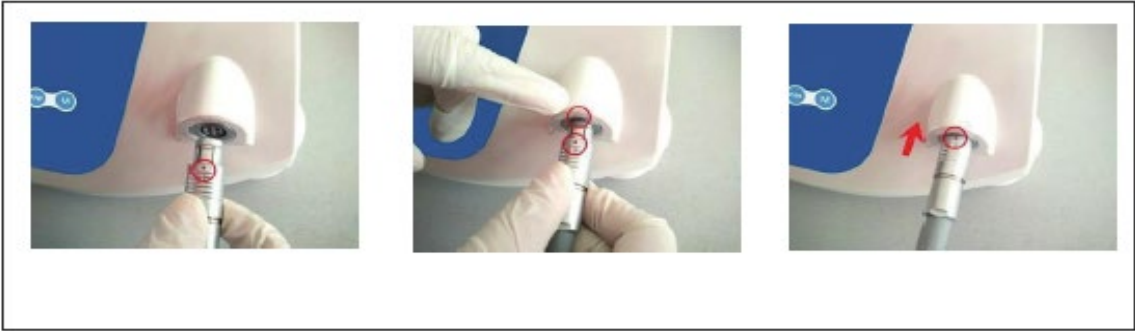

Fig.7
- 6.3.5.** Insert the connector of the HBPS-1 LED handpiece cord to the cord connector on the main unit front connector (Fig. 7). Note the alignment of the two red dots and the detent-enabled sleeve.
- 7.5.8**  **WARNING: DO NOT GRIP THE DISTAL END PART OF THE HANDPIECE OR THE CORD. ONLY GRIP THE PLASTIC HANDPIECE PLASTIC AND METAL CASTINGS, AND DO NOT TURN IT WHILE FASTENING THE TIP TO THE SHAFT, OR THE SHAFT TO THE HANDPIECE OR THE GOLD INSERT TO THE HANDPIECE. MAKE SURE THAT THE HBPS-1 LED HANDPIECE IS CORRECTLY CONNECTED TO THE HANDPIECE CONNECTOR (FIG. 7).**